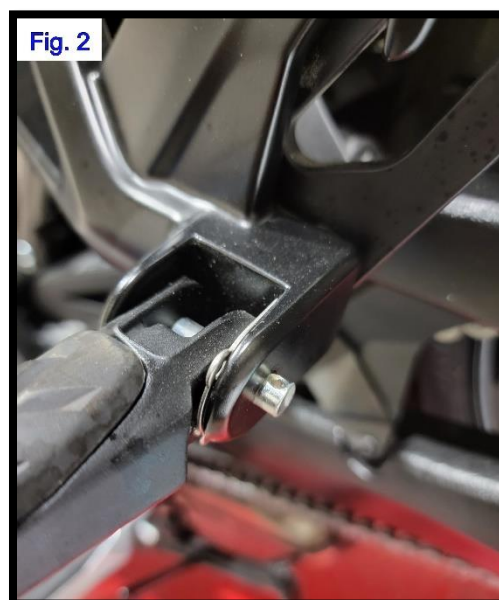

Fig. 3
- 3) While holding the silver plate against the foot peg, pull both out together. The spring and bearing are between the foot peg and silver plate. Set all aside. **Fig. 3**